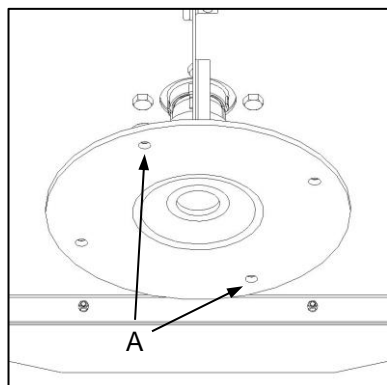

Fig. 7
- ✔ Check blade mounting holes (Fig. 7-A / 8-A) for signs of wear, elongation or fractures. In the event of any observed defect do NOT attempt a repair, but provide immediate replacement of the defective item.
- ✔ Gaan lemmonteringsgate (Fig. 7-A / 8-A) na vir tekens van slytasie, vergroting of breuke. In die geval van enige waargenome defek, moet NIE probeer om dit herstel nie, maar vervang die defekte item onmiddellik.